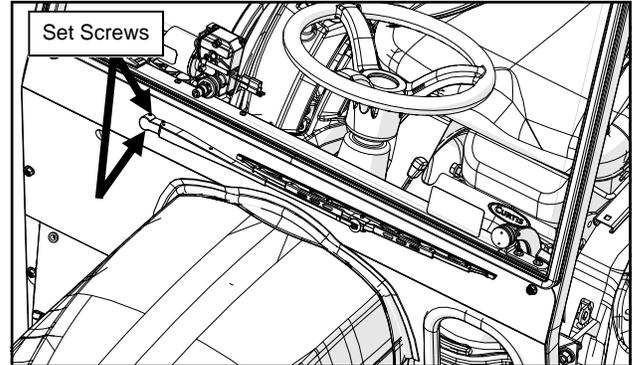

Fig. 19.3 (Wiper Arm and Blade)
- 19.3 Install the wiper arm onto the wiper motor so that the wiper is horizontal. See Figure 19.3. Tighten the Allen Screws.